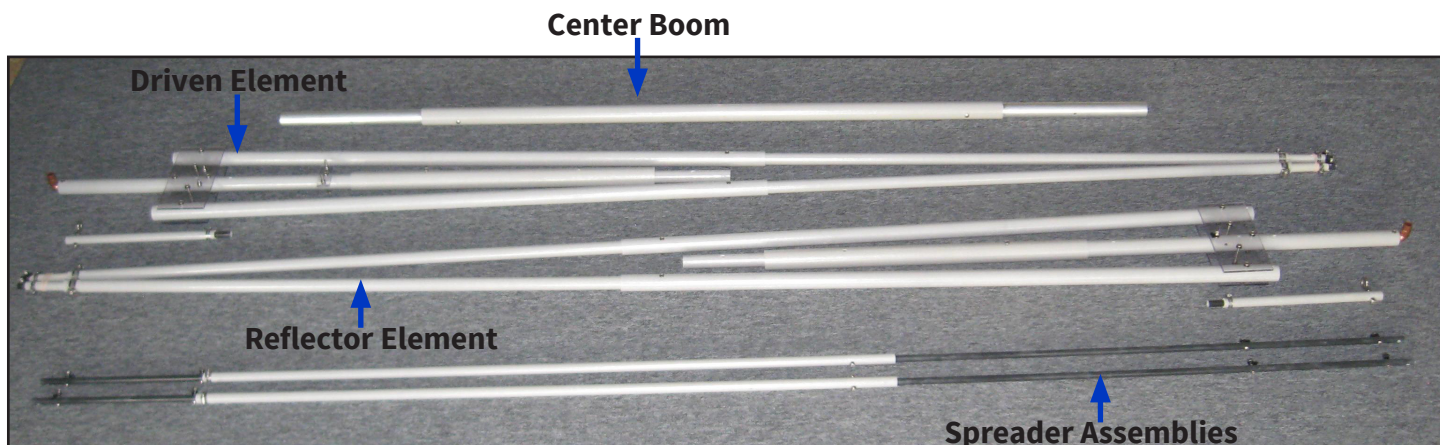

Fig. 56
- Carefully carry the Assemblies shown in Fig. 56 to your new work location. Also move all other remaining antenna parts such as remaining hardware, RF Wire Assemblies and Lanyards.